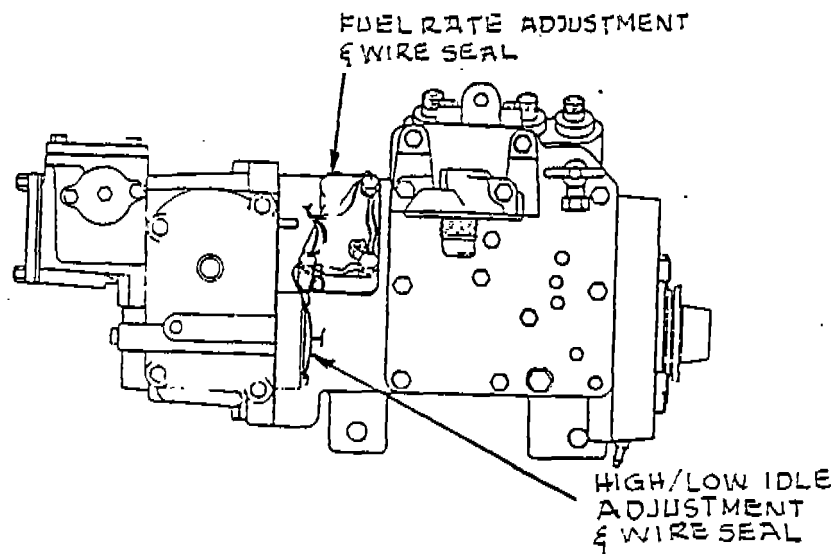

Figure 2- Sealed Engine Adjustments
- (WEEKLY) 5. ( ) Fuel filters (2)\* are properly installed and are not damaged.
- (WEEKLY) 6. ( ) The fuel injection rate adjustment mechanism (3)\* and the engine governor setting are locked and sealed (see Figure 2).